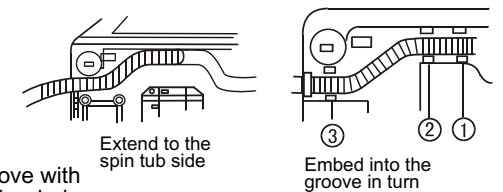

Figure 3
• Embed the drain hose into the groove along the side of the spin tub in the order of (1)~(3), heading for the side of the spin tub. (See to Figure 3).
Select the strength of the current according to the laundries. (Figure 3)